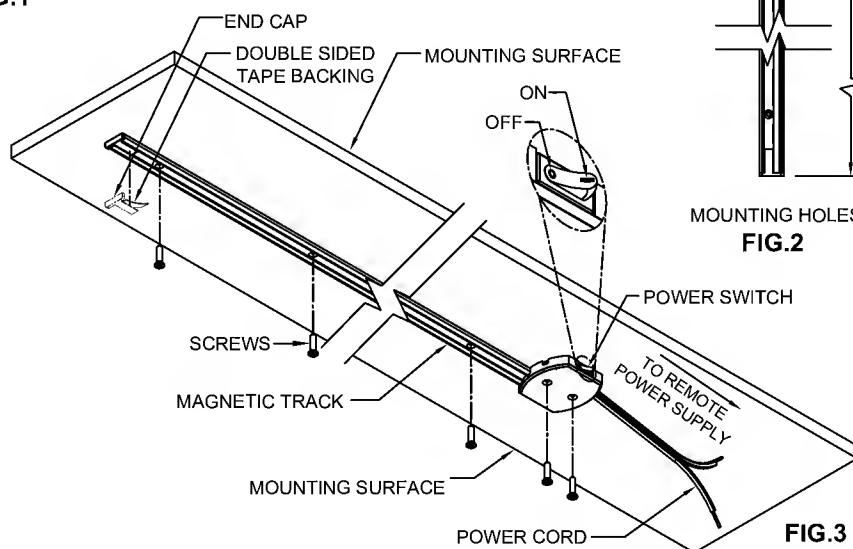

FIG.3
4. Attach END CAP to MAGNETIC TRACK by removing DOUBLE SIDED TAPE BACKING. Press END CAP into place on MAGNETIC TRACK, making certain that END CAP is tight against end of MAGNETIC TRACK (FIG.3).